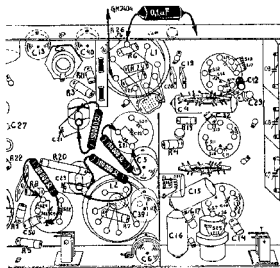

Fig. 3.
5. Connect 50,000 ohms resistance across C22 and 80,000 ohms across C23 (see Fig. 3).
8. Damp C21 with 50,000 ohms resistance and C24 with 80,000 ohms (see Fig. 3).
3. Connect aperiodic amplifier GM2404 to anode of L1 (see Fig. 3).
5. Earth the first grid of the mixing valve through a condenser of 0.1 μ F (see Fig. 3).
11. Trim C12 for maximum output (see Fig. 3).